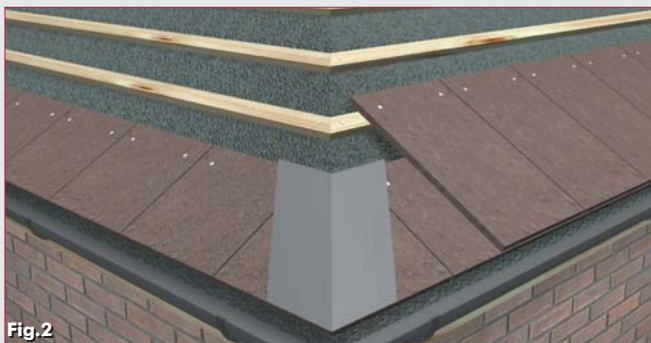

Fig.2
2. Hardrow Slates are close cut and mitred down the line of the hip and weathered by a parallel sided lead soaker which lays between the slates on each course. The soaker is secured by turning the top 25mm over the top of the slate. The length of the soaker is determined by the equation - gauge + headlap + 25mm. (Fig.2)